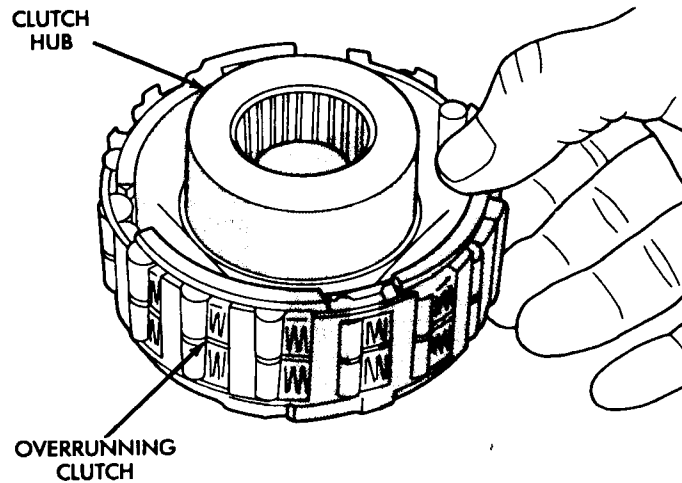

Fig. 48 Assembling OVERRUNNING CLUTCH AND HUB
(9) Install overrunning clutch on hub (Fig. 48). **Note that clutch only fits one way. Shoulder on clutch should seat in small recess at edge of hub.**